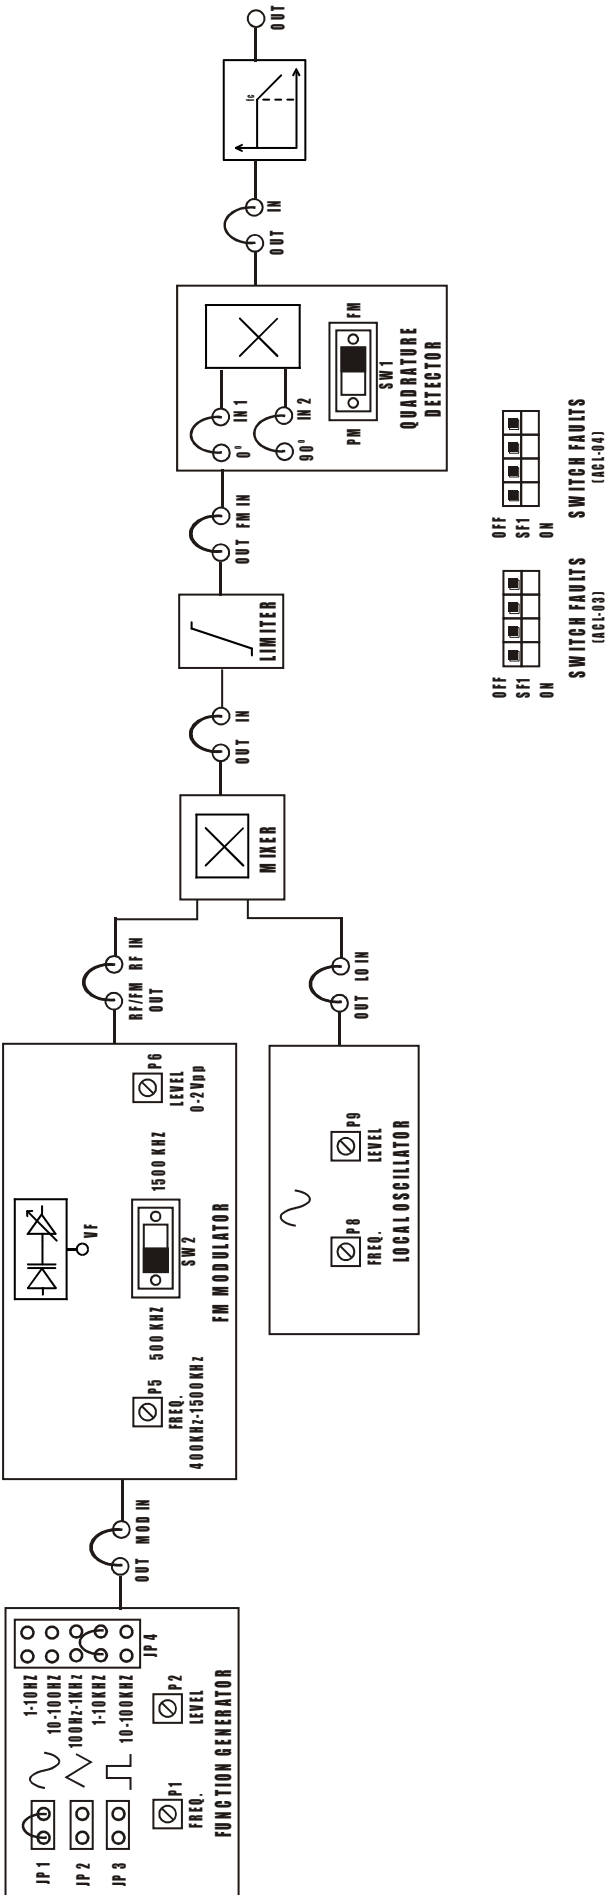

FIG.3.14 BLOCK DIAGRAM FOR QUADRATURE DETECTOR
- Refer to the FIG. 3.14 & Carry out the following connections.